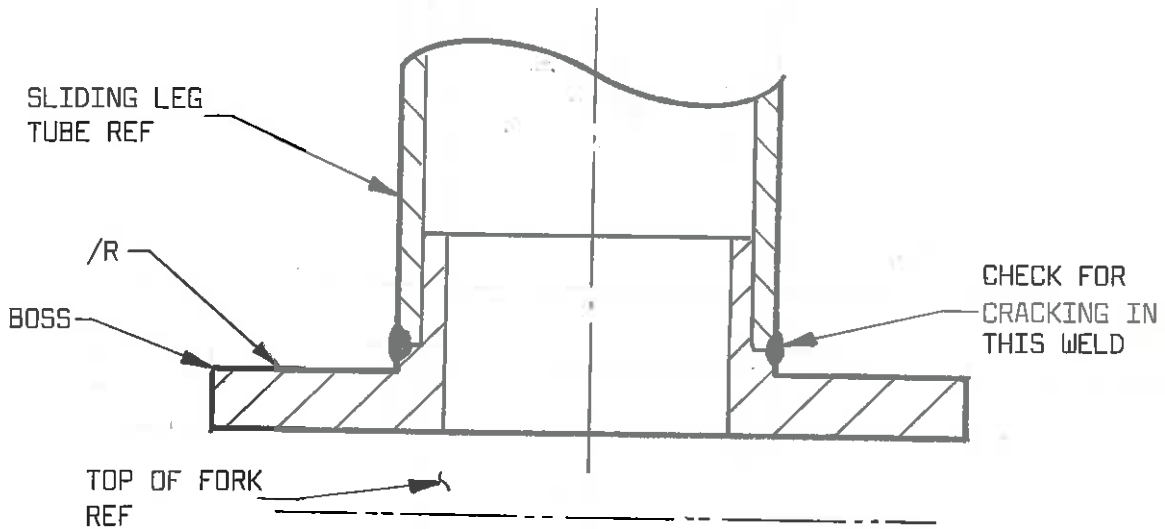

FIG 1b
- ii. For Post Mod M425/Pre Mod M468 aircraft, ref Fig. 1b, there is no requirement to remove the fork assembly for the inspection.